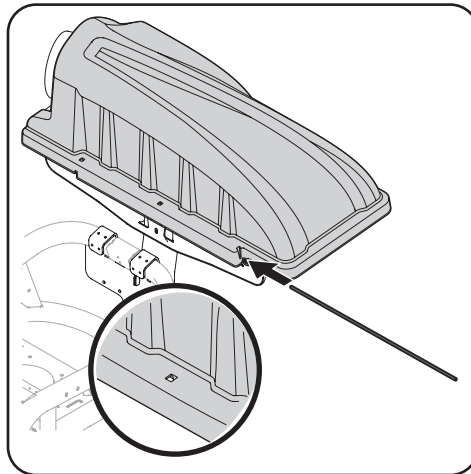

Figure 4-17
5. Slide the hinge pin into the hole located on the mounting tab, as shown in Figure 4-17. Use the cut-out windows (See inset in Figure 4-17) to line up the hinge pin on the other side and push pin all the way in until it reaches the end-stop. At this point the pin clips into place and is secured by a tab in the bagger cover.